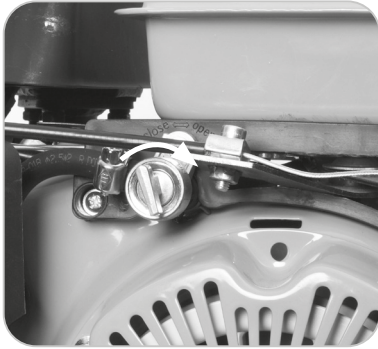

Fig. 6
- Turn the fuel tap lever to the 'On' position. **(Fig. 6)**